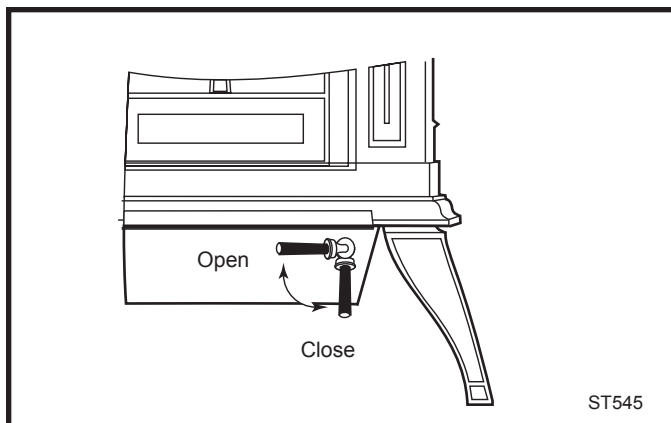

Fig. 39 Turn the ashdoor handle clockwise to open and counterclockwise to close.
- Close the griddle or doors, and unlatch the ash door. (Fig. 39) It will pivot, swinging the ash pan out of the stove.